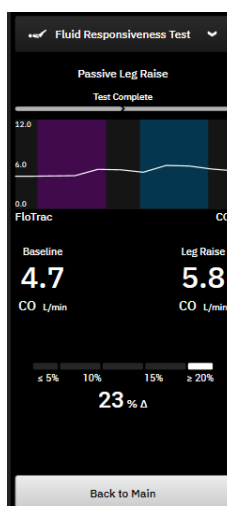

Figure 13-23 Fluid Responsiveness Test – results screen
- 11 At the conclusion of the test, the change in the selected **Parameter** value as a response to the fluid challenge will be displayed. See Figure 13-23. Touch the **Back to Main** button to perform another test, or the hide side panel by touching **Clinical Tools** icon  on the navigation bar to return to full display of the main monitoring screen.
- 11 At the conclusion of the test, change in the selected **Parameter** value as a response to the fluid challenge will be displayed. See Figure 13-23. Touch the return icon to perform another test, or the home icon to return to the main monitoring screen.